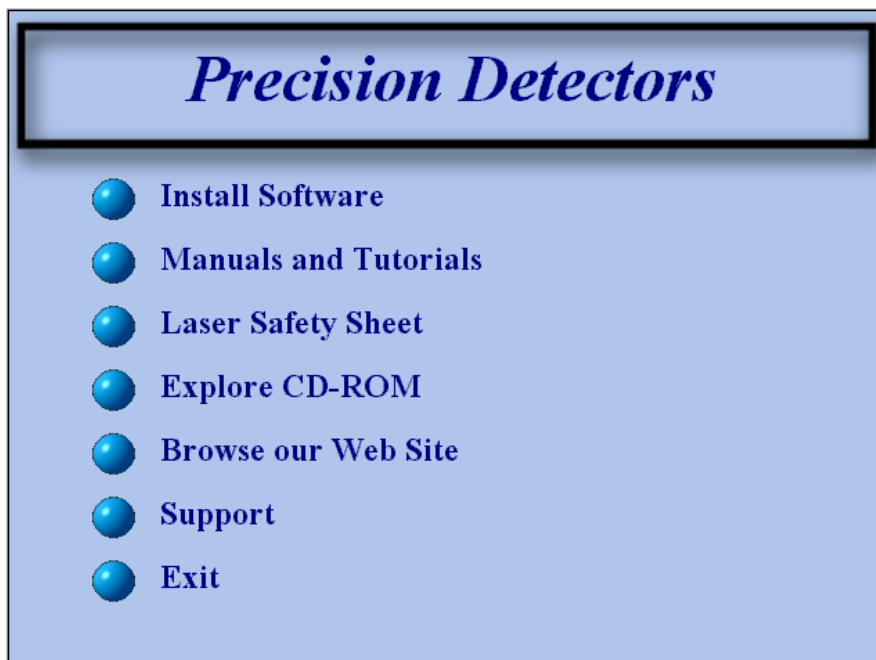

Figure 2-1: The Precision Detectors Software Installation Screen
- a) Place the distribution disk in the CD drive. The *Precision Detectors Software* installation screen (Figure 2-1) will be presented: